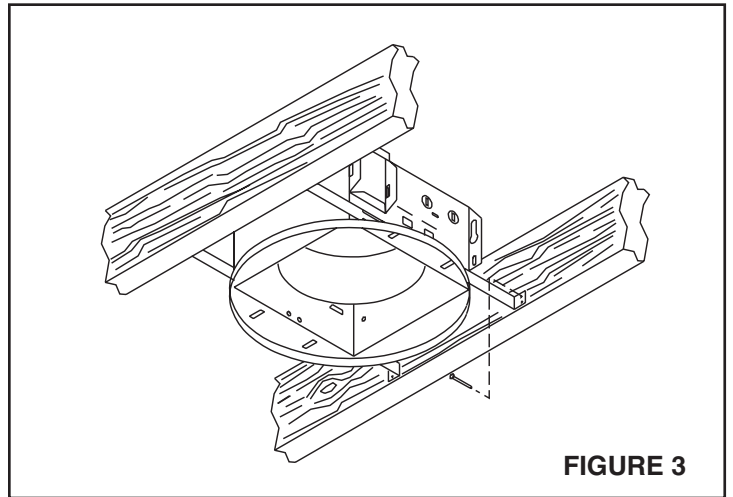
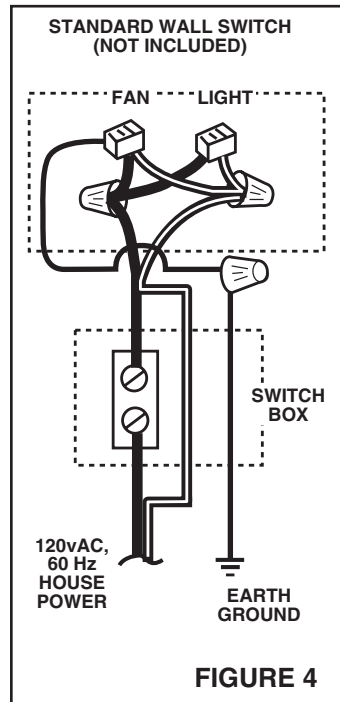
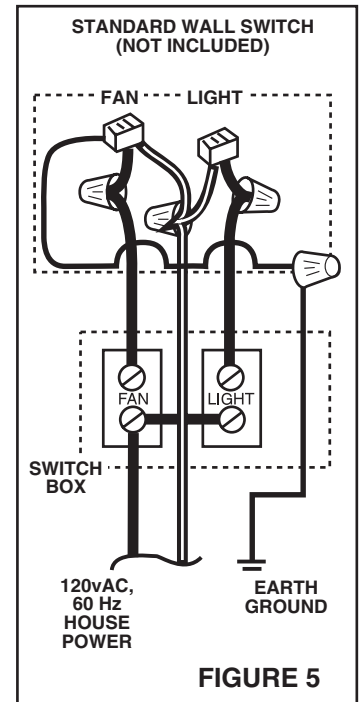

FIGURE 3
FIGURE 4
FIGURE 5
Refer to Figure 3.
4. Refer to Figures 4 and 5. If a single switch will be used to control both the fan and the light, make wiring connections as shown in Figure 4. If a double switch will be used for separate control of the fan and light, make connections as shown in Figure 5.
**WIRING AND DUCTING:** Plan ducting and wiring BEFORE proceeding with installation. Refer to Figures 4 and 5 for wiring and Figure 3 for ducting.